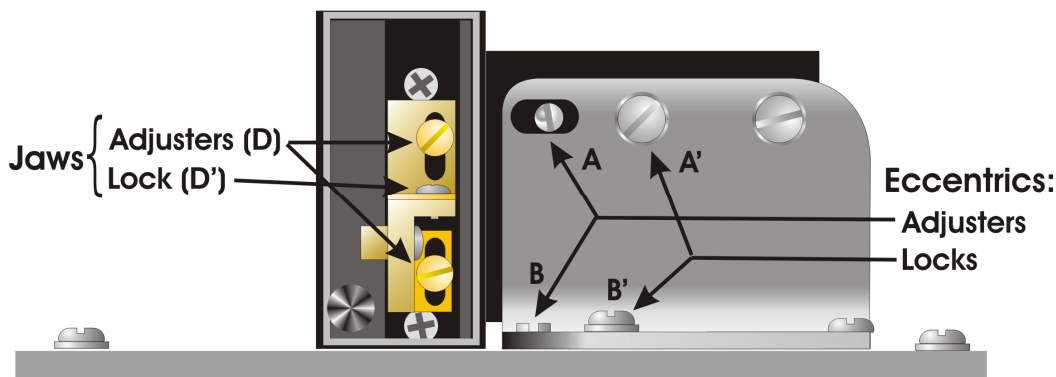

Figure 4-2. Filament alignment.
2. Loosen the two clamp screws (**D' in Figure 4-2, only one shown**) that hold the filament in place, and then slide out the old filament.
2. Locate the aluminum angle plate to the right of the filament assembly and behind the right puller bar. Two chrome eccentric screws (**A** and **B** in **Figure 4-2**) in slots are mounted on this bracket, one located on the vertical face of the bracket and one on the horizontal face. Identify the flathead locking screws to the right of each chrome screw.